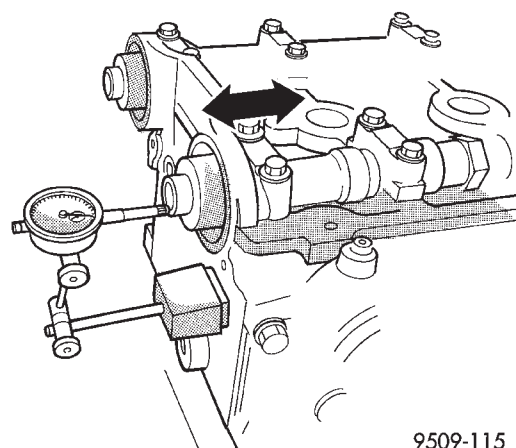

Fig. 16 Camshaft End Play
(1) Oil camshaft journals and install camshaft **WITHOUT** cam follower assemblies. Install rear cam caps and tighten screws to specified torque.
(2) Using a suitable tool, move camshaft as far rearward as it will go.
(3) Zero dial indicator (Fig. 16).
(4) Move camshaft as far forward as it will go.
(5) End play travel: 0.05 - 0.15 mm (0.002 - 0.010 in.).
(6) If end play is excessive check cylinder head and camshaft for wear; replace as necessary.
- (1) Raise vehicle on hoist.
- (2) Remove thru bolt at rear mount and remove bolts attaching module to crossmember.
- (3) Remove upper attaching bolt from rear support strut bracket (Fig. 16).
- (4) Remove front attaching bolts from support module to lower radiator support.
- (5) Support cooling module.
- (6) Remove lower radiator support bolts, and remove support.
- (7) Remove thru bolt at front mount and remove support module.